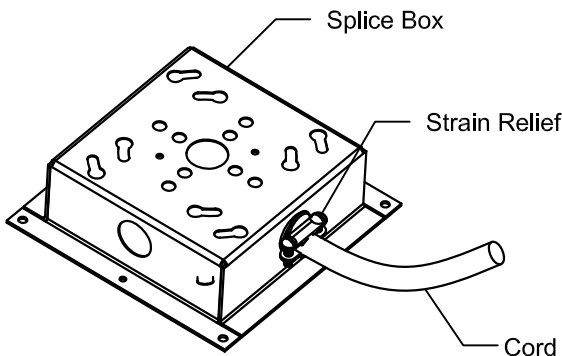

FIGURE 3
Figure 3, remove (1) $\frac{7}{8}$ " conduit knock-out from side of splice box, insert Strain Relief, as shown, and secure with supplied conduit nut. Insert Cord through Strain Relief, into Splice Box, and tighten strain relief screws to secure cord. Splice fixture wires to cord wires with supplied wire nuts and attach cord ground wire to green ground screw inside splice box.